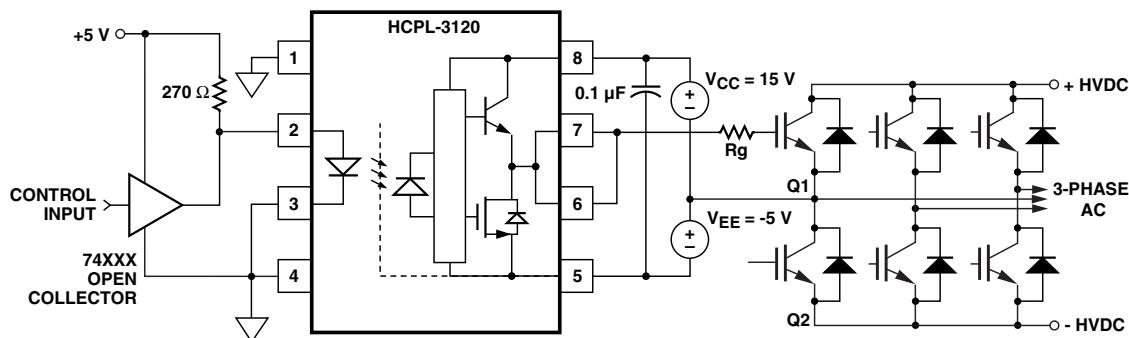

Figure 26. HCPL-3120 typical application circuit with negative IGBT gate drive.
Step 1: Calculate R_g Minimum from the I_{OL} Peak Specification. The IGBT and R_g in Figure 26 can be analyzed as a simple RC circuit with a voltage supplied by the HCPL-3120.
For the circuit in Figure 26 with I_F (worst case) = 16mA, R_g = 8Ω, Max Duty Cycle = 80%, Q_g = 500 nC, f =20 kHz and T_A max = 85 °C: